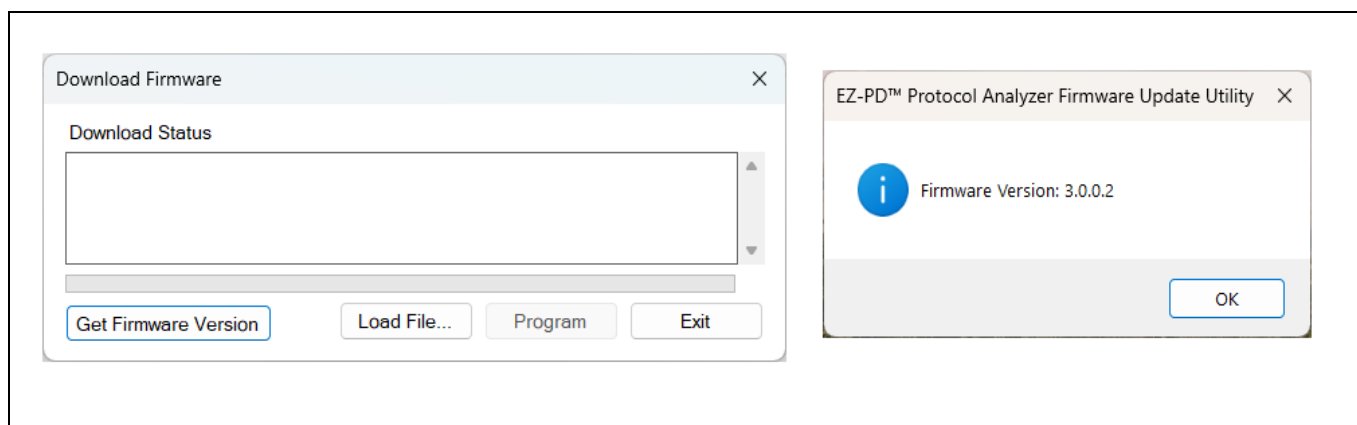

Figure 15 Get the current firmware version and dialog box
2. On the host PC, launch the download firmware application from <install location>\EZ-PD Protocol Analyzer Utility\Firmware_Update_Tool\EZPD_Firmware_Update_Tool. The utility's start-up page looks similar to the image shown in Figure 15.
3. Check the current firmware loaded on the EZ-PD™ Protocol Analyzer hardware by selecting **Get Firmware Version** as shown in Figure 15. A dialog box showing the current firmware version appears.